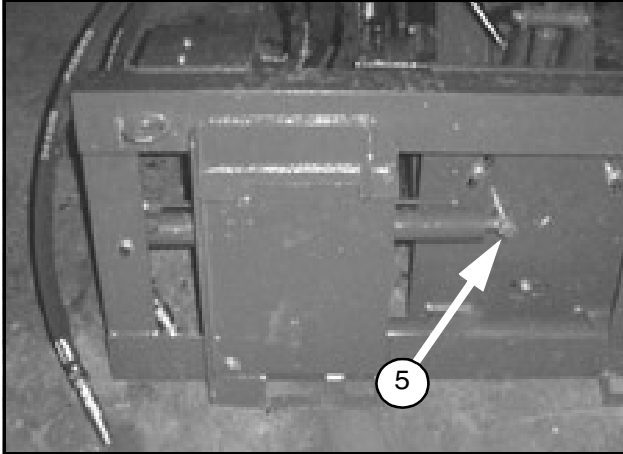

Figure 14.
2. Remove the snap rings (2) and (3).
3. Remove the sideshift cylinder pin (4).
4. Slide the rod end of cylinder from the backplate pin (5) as shown in Figure 14.
1. Install the rod end of the cylinder on the backplate pin (5) as shown in Figure 14.